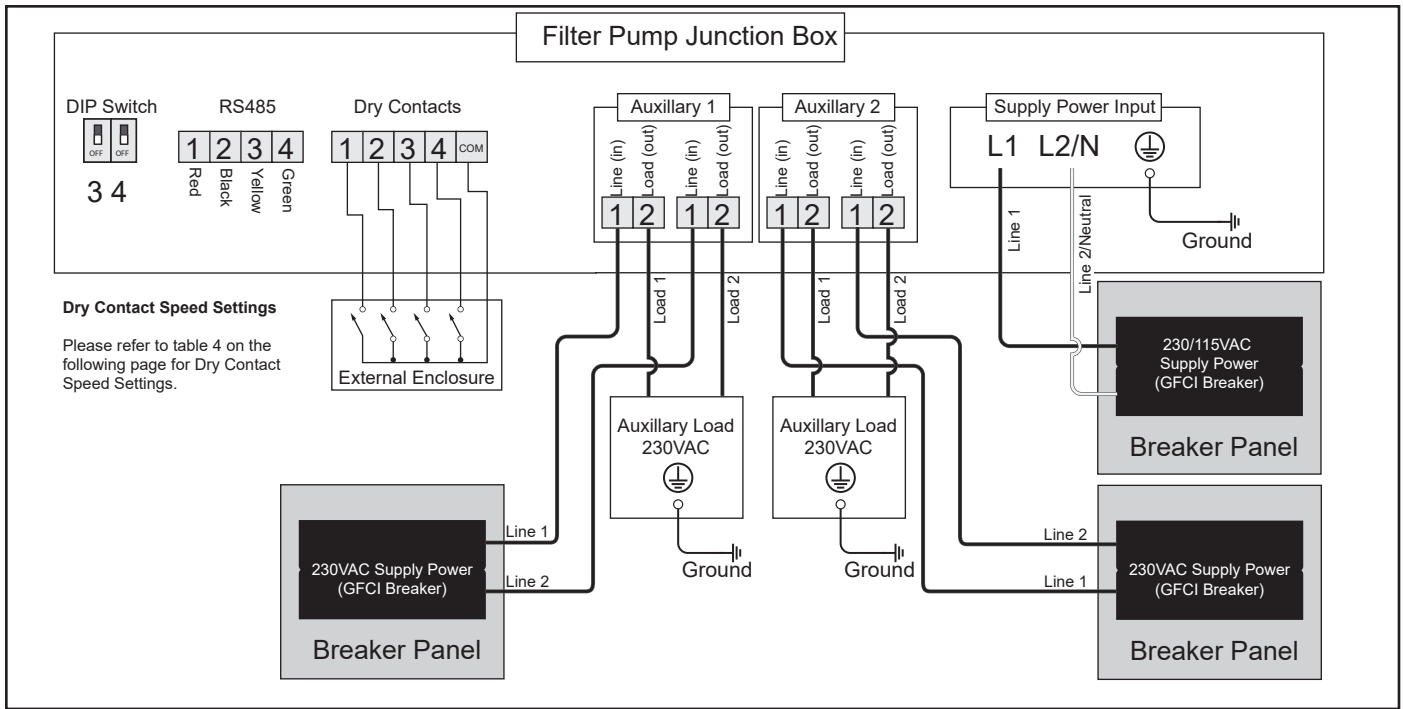

Figure 10. 230V Auxiliary Relay Wiring Diagram\*
**NOTE:** When power alone is supplied to this pump, it will not operate. It requires a digital command sent to it by either a variable speed controller (JEP-R, iQPUMP01), an automation system, or use of the dry contacts (See figure 10 and 11).
See Figures 10 and 11 for compartment's location details.
If no inputs are jumped to common, the RPM is zero. When any Zodiac controller is connected through RS-485, all dry contact commands will be ignored. Refer to Figures 10 and 11 for dry contact wiring. Refer to table 4 for dry contact speed settings.